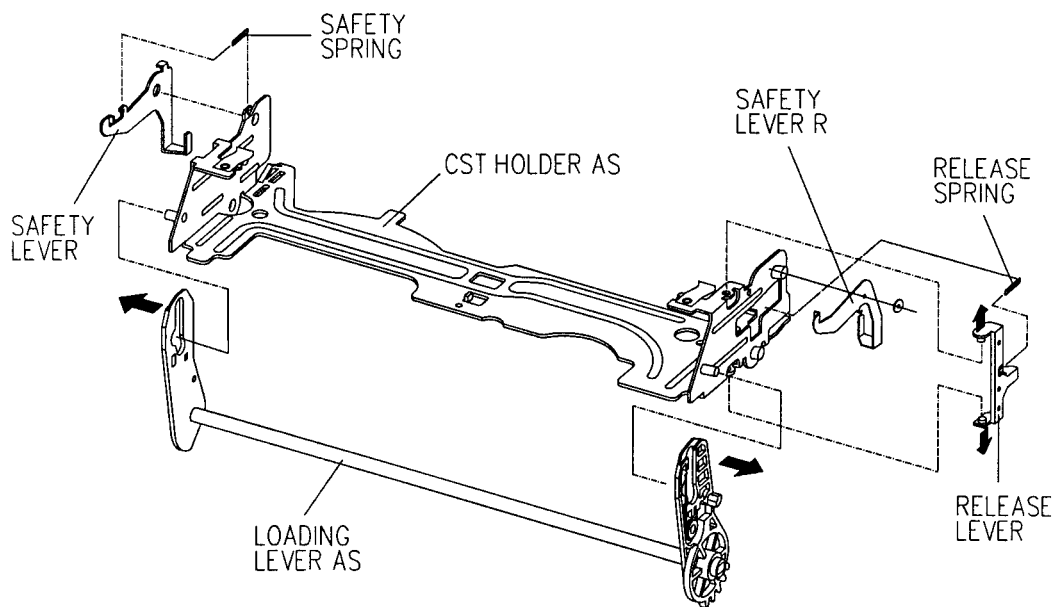

Fig.3-5 DISASSEMBLY OF THE CASSETTE HOLDER ASS'Y
- f. Remove the LOADING LEVER ASSEMBLY by pressing the connected section of the loading lever assembly in the directions of the arrows. (Fig. 3-5)
- g. Remove the SAFETY SPRING between the SAFETY LEVER and the CASSETTE HOLDER PLATE. (Fig. 3-5)
- h. Remove the RELEASE SPRING between the RELEASE LEVER and the SAFETY LEVER R. (Fig. 3-5)